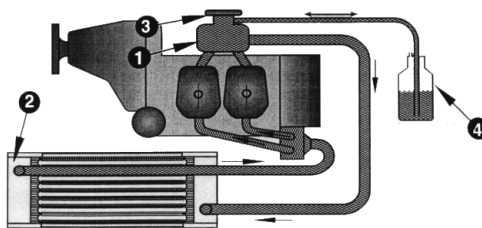

Figure 7-2 Scheme of cylinder head cooling system
Cooling circuit of cylinder heads is designed as a closed system containing pump, expansion reservoir (1) with pressure closure (3), cooler of cooling liquid (2) and drainage reservoir (4). Scheme of cylinder head cooling system is shown in Fig. 7-2.